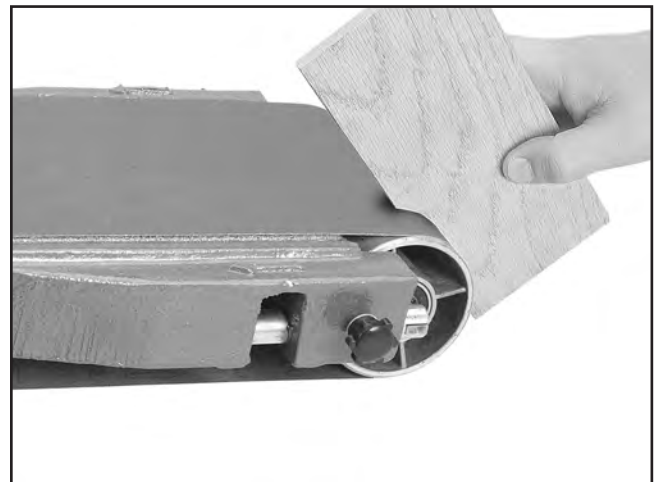

Figure 59. Example of contour sanding.
5. Slowly feed the workpiece into the curved end of the belt and continue moving the workpiece profile along the contour until you achieve your desired shape, as shown in **Figure 59**.